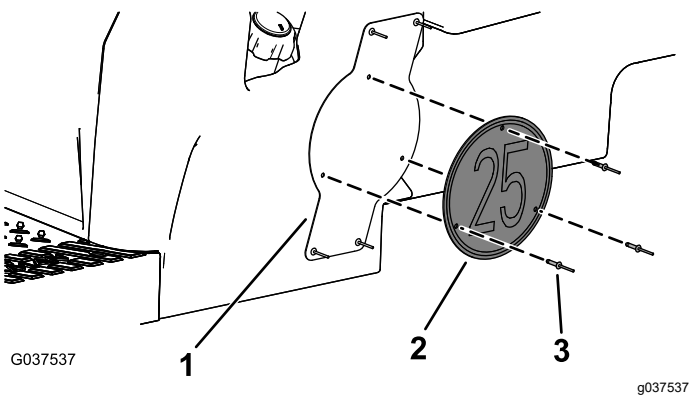

Figure 12
8. Install the speed plate to the plate-mount bracket using 3 pop rivets (3/16 x 15/16 inch) as shown in Figure 12.